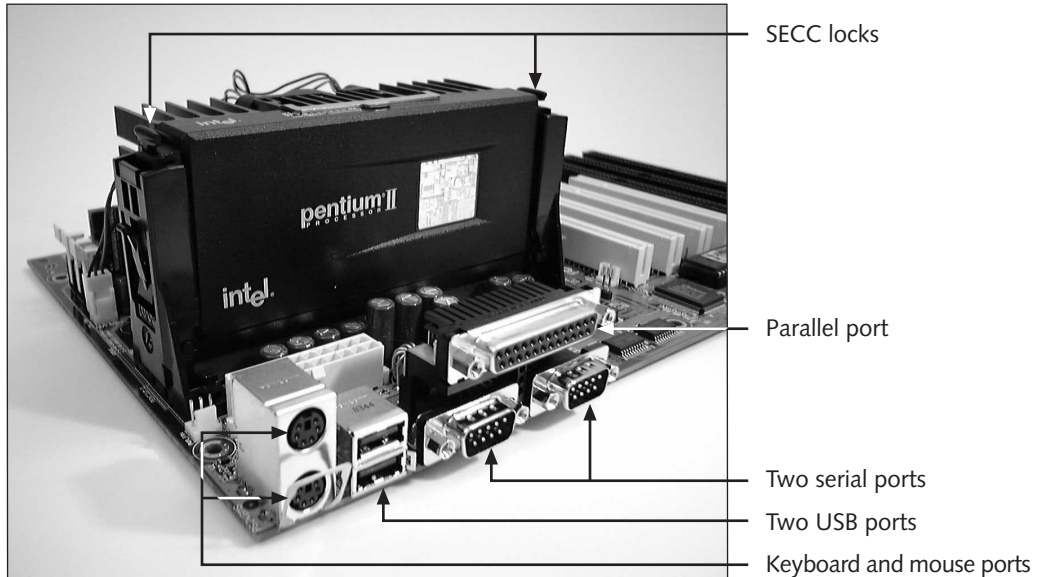

Figure 15-10 Push the SECC locks outward until they lock into the supporting arm lock holes
- Lock the SECC into position by pulling the SECC locks outward until they lock into the supporting arm lock holes. See Figure 15-10. (Incidentally, this figure shows a good view of the ports coming off the system board, which are labeled in the photo.)